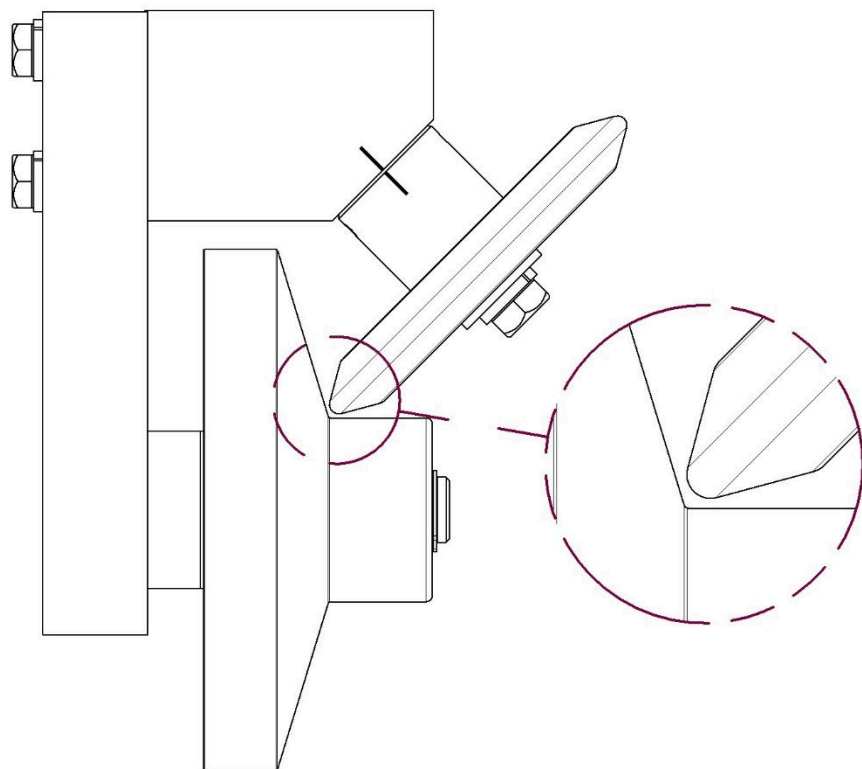
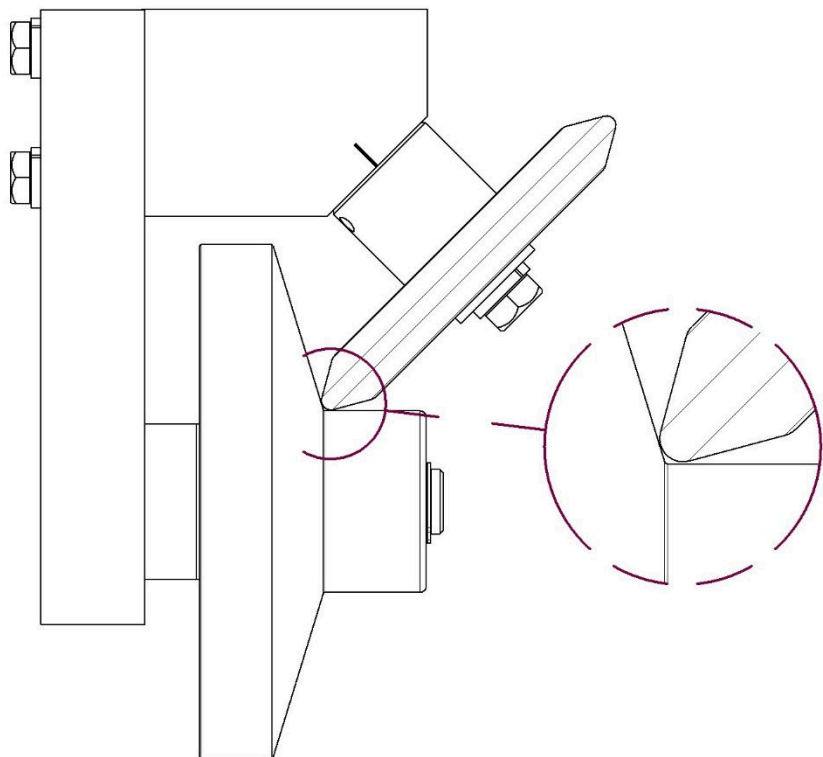

Figure 87: Eccentric Shaft Proper Adjustment
Figure 89: Eccentric Shaft Too Tight
3. Rotate the shaft to the desired angle. (See Figure 87 - Figure 89).